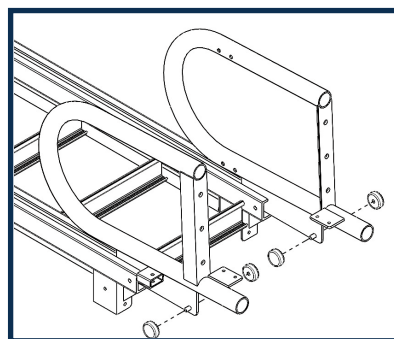

FIGURE 2
- Install dock mount arm/roller assembly (R) and move into ladder allowing access to lower roller pins.
- Attach rollers (2) to lower roller pins on dock mount arm (R). See figure 2.
- Install dock mount arm/roller assembly (L) and move into ladder allowing access to lower roller pins.
- Attach rollers (2) to lower roller pins on dock mount arm (L). See figure 2.